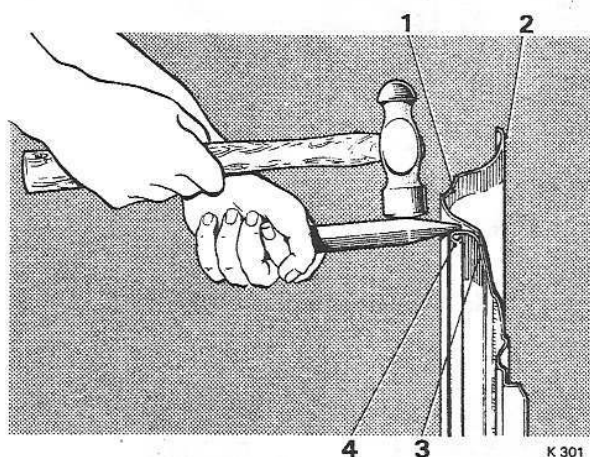

FIG. R6 CLAW RING ADJUSTMENT
3. Place a tommy bar on the outer edge of the claw ring, as shown in Figure R6.